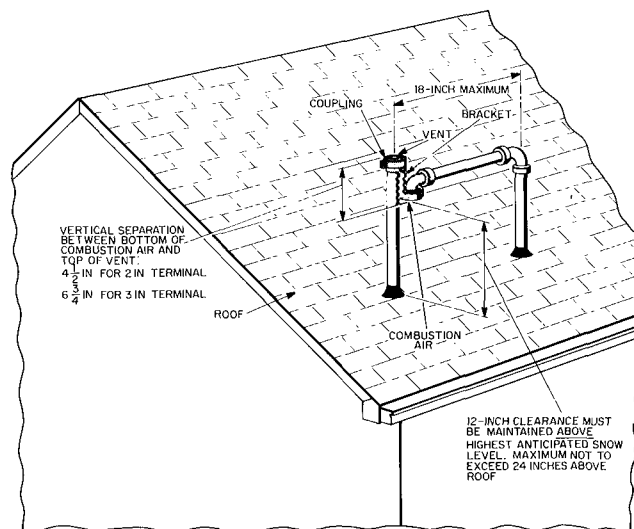
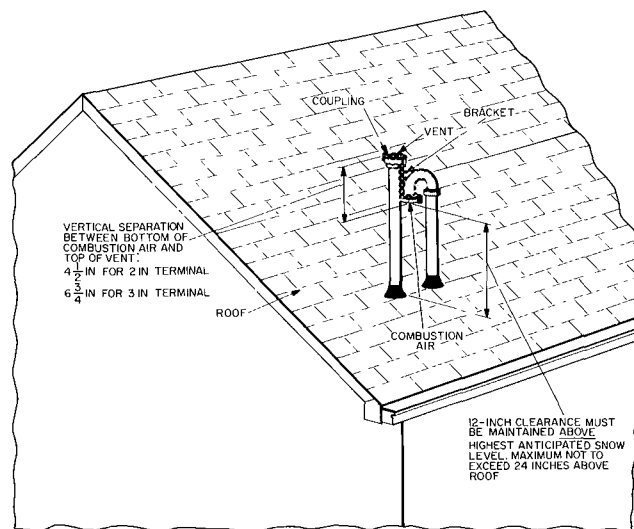

Fig. 2 — Rooftop Termination (Preferred)
Fig. 3 — Rooftop Termination (Option)
Two terminal kits are available. The 2-in. kit is for 1-1/2 in. and 2-in. diameter pipe systems. The 3-in. kit is for 2-1/2 in. and 3-in. diameter pipe systems. Each kit will have extra parts. See Fig. 2 through 7 for the different applications. The combustion-air and vent pipes must terminate outside the structure. A factory-supplied termination kit must be installed in one of the installations shown in Fig. 2 through 7. The roof termination is preferred.
Do not count the shaded parts in Fig. 2 through 7 when determining the pipe diameter from the pipe diameter table. These parts are provided in the terminal kit.
Rooftop Terminal Installation. See Fig. 2 and 3.
NOTE. The arrangement in Fig. 2 is preferred. The arrangement shown in Fig. 3 is an option for the combustion-air pipe.
3. Loosely install pipe coupling, provided in kit, on properly cut vent pipe. The position of the coupling must be so that the bracket will mount as shown in Fig. 2.
5. Install bracket as shown in Fig. 2.
6. For applications using combustion-air pipe option as shown in Fig. 3, install 180-degree U-fitting on end of combustion-air pipe instead of 90-degree elbow.